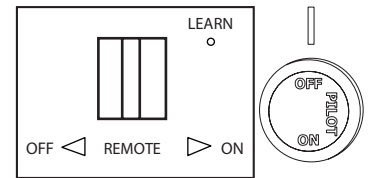

Fig. 26 - Receiver & Control Knob
2. Set receiver switch to "ON" position (See Fig. 26).
3. Turn control knob clockwise ↻ to the "OFF" position (See Fig. 26).
4. Wait five (5) minutes to clear out any gas. Then smell for gas, including near the floor. If you smell gas, STOP! Follow "B" in the safety information as noted above. If you don't smell gas, go to the next step.
5. Push in slightly and turn control knob counterclockwise ↻ to the "PILOT" position (See Fig. 26). Depress control knob.